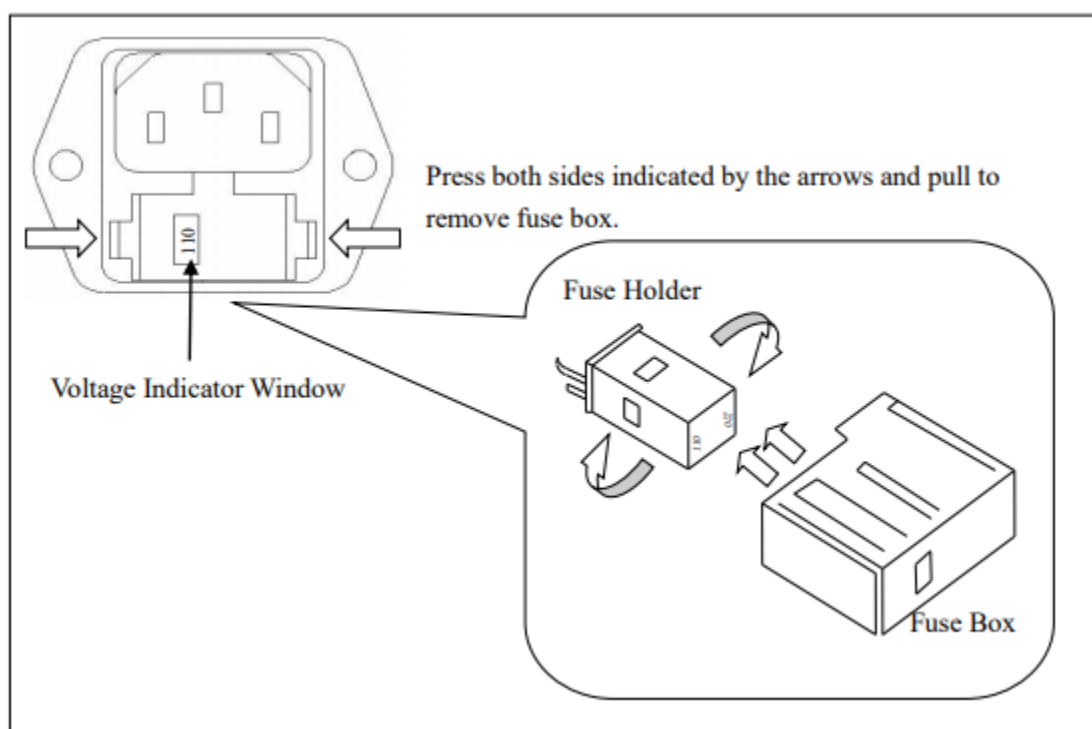

Figure 2.2 – AC Input Fuse Removal
- Remove the fuse box as shown in Figure 2.2 – AC Input Fuse Removal below